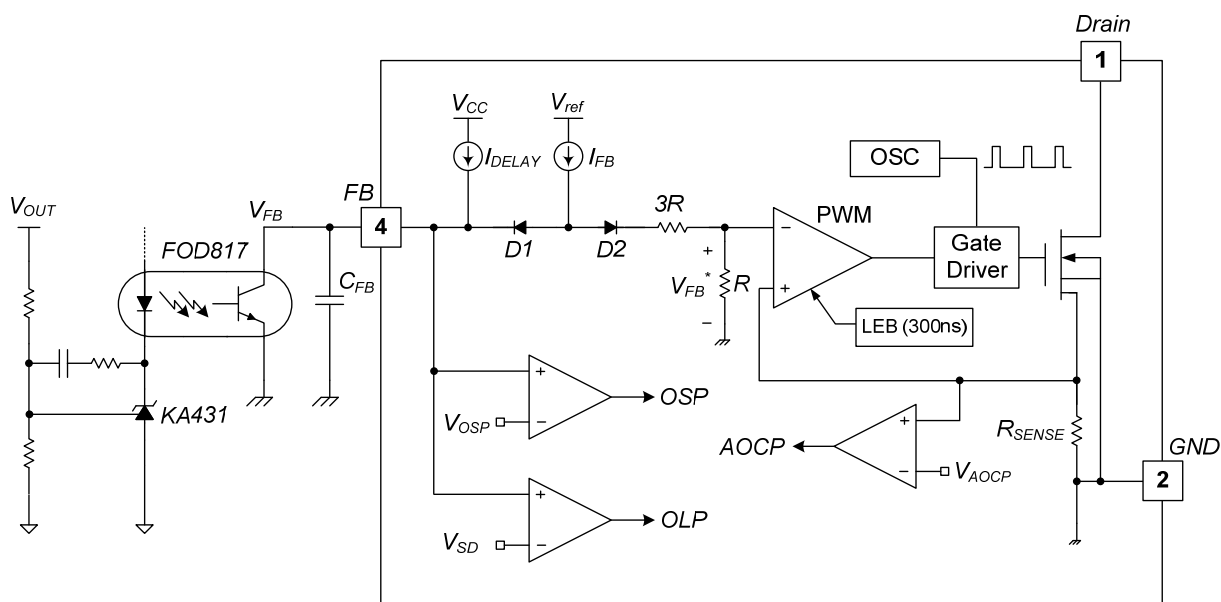

Figure 18. Pulse Width Modulation Circuit
3. Feedback Control: This device employs current-mode control, as shown in Figure 18. An opto-coupler (such as the FOD817) and shunt regulator (such as the KA431) are typically used to implement the feedback network. Comparing the feedback voltage with the voltage across the R_{SENSE} resistor makes it possible to control the switching duty cycle. When the reference pin voltage of the shunt regulator exceeds the internal reference voltage of 2.5V, the opto-coupler LED current increases, pulling down the feedback voltage and reducing drain current. This typically occurs when the input voltage is increased or the output load is decreased.
3.1 Pulse-by-Pulse Current Limit: Because current-mode control is employed, the peak current through the SenseFET is limited by the inverting input of the PWM comparator (V_{FB}^*), as shown in Figure 18. Assuming that the 90μA current source flows only through the internal resistor ($3R + R = 27k\Omega$), the cathode voltage of diode D2 is about 2.5V. Since D1 is blocked when the feedback voltage (V_{FB}) exceeds 2.5V, the maximum voltage of the cathode of D2 is clamped at this voltage. Therefore, the peak value of the current through the SenseFET is limited.